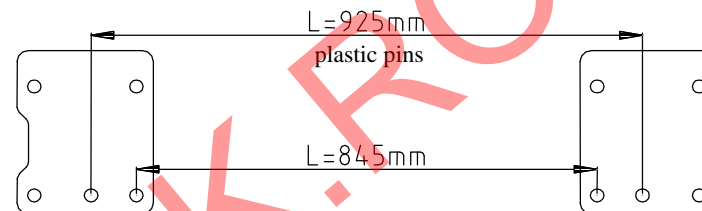

Fig.2 Element's distance
3. On the left and right side in the boot are plastic pins (diameter 11 mm). On this pins put elements pos. 6 (pins in pos. A hole) – see fig. 2. Next drill holes through holes pos. 2 and 3, use bit Ø11 mm, drill straight through.
4. Put bolts M10x40 through holes(pos. C in element pos. 6 and next from below of car sandwich element pos. 4 from the left side (screw loosely), from the right side sandwich element pos. 5 (screw loosely too).
5. Through holes pos. B (in elements pos. 6) put bolts M10x30 and screw it with floor and element pos. 7.
6. In this way prepared elements (pos. 4 and 5) put main bar of the towbar (pos. 1) and fix it using bolts M12x30 (loosely).
7. Through holes pos. D fix with original tow handle using distance plain washers Ø58xØ12x6 pos. 8.
10. Fix tow-ball (pos. 2) and socket plate (pos. 3) using bolts M12 x 70mm (pos. 9) from equipment.